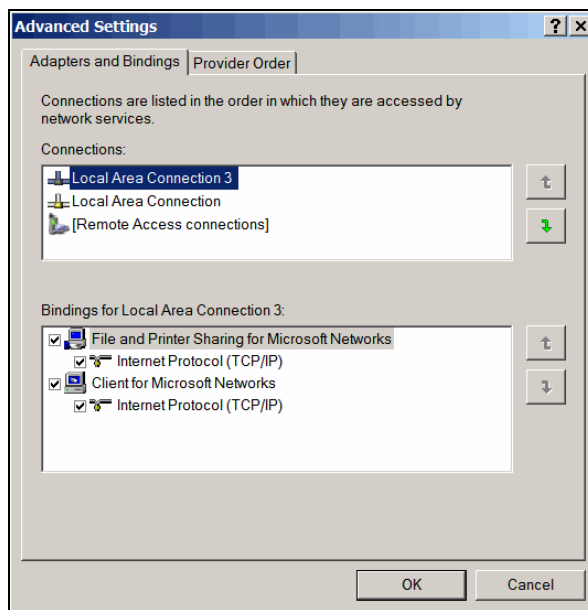

Figure 40 Advanced Settings for the Osprey
8. In the Network Connections window click on the **Advanced** menu and select the **Advanced Settings** menu item. This will bring up the Advanced Settings dialog window (Figure 40).